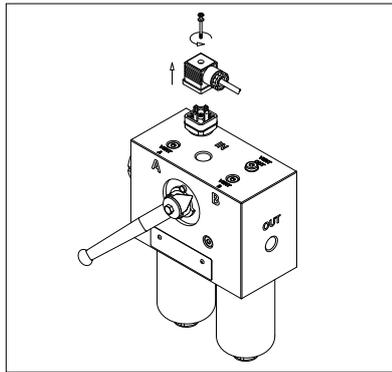

fig. 19
- (Fig. 19) Remove the connector of the differential indicator by unfastening the central screw (only for electrical indicators)
- For the mounting/dismounting of the indicator, please refer to the paragraph “Clogging indicator replacement” above (Fig. 19÷22)